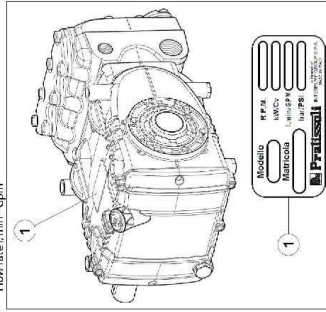

Fig. 1
Most problems which can cause the unit to shutdown will be indicated by one of the fault lamps on the engine controller See fig.1 as follows:
Each pump has an identification label, see pos. ① of Fig. 1 without the Operator having already directed his/her lance toward the work area.